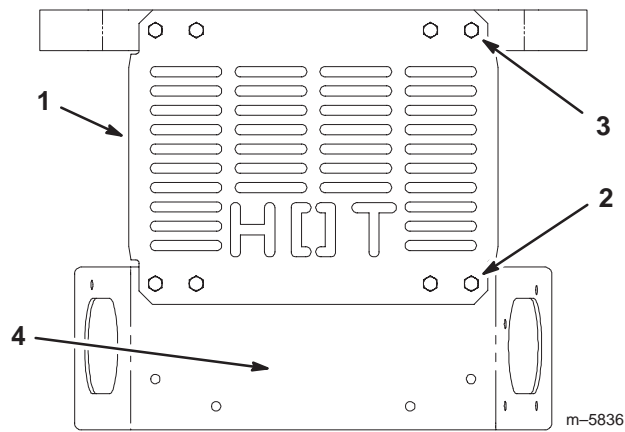

Figure 6
1. Remove the rear heat shield (Fig. 6). Discard the top bolts and nuts.
6. Install the bottom of the rear heat shield to the rear bumper (Fig. 6).